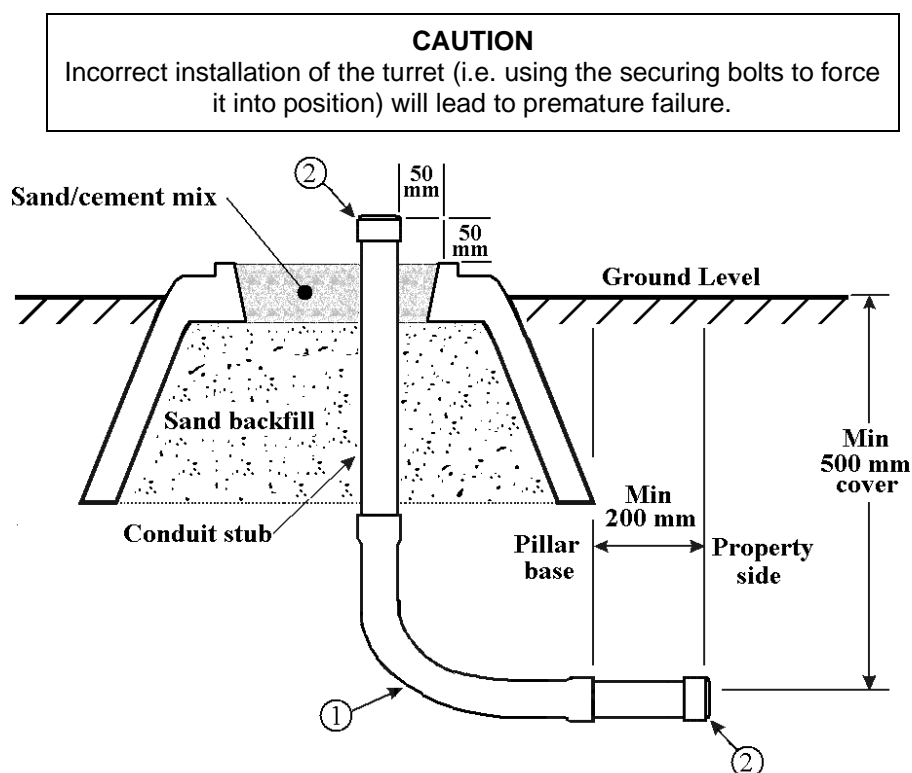

Figure 23.4 - Conduit Stub Details
4. Refer to Figure 23.4 for service conduit stub details (if applicable).
11. A conduit stub shall be installed in accordance with Figure 23.4 for each cable that has not been initially laid prior to the installation of the pillar noting the following: